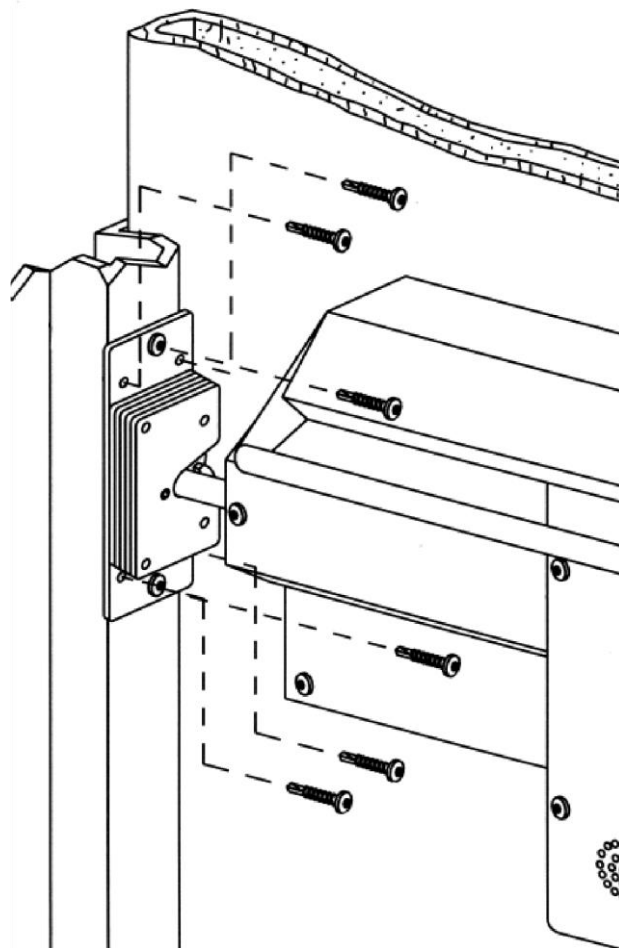

FIGURE 6
8. With the door closed, slide the latch over the lock bolt rod, making sure it latches. Mark around the outside of the latch and open the door. Remove the paper backing from the adhesive tape on the back of the latch and temporarily affix it to the jamb stop - aligning with the marks. Fasten the latch to the jamb stop with two (2) self-drilling torx screws through the two (2) slotted holes in the latch (See Figure 6). Verify that the lock bolt fully latches into the latch and extends fully. If necessary, make additional adjustments by loosening the two (2) self-drilling torx screws and moving the latch. Make sure the door closes and locks smoothly and securely. Tighten the two (2) self-drilling torx screws. Once you are satisfied with the adjustments, secure the latch to the jamb stop with the remaining four (4) self-drilling torx screws.
1008-01	Latch Assembly Packaged (Shown in Figure 6)